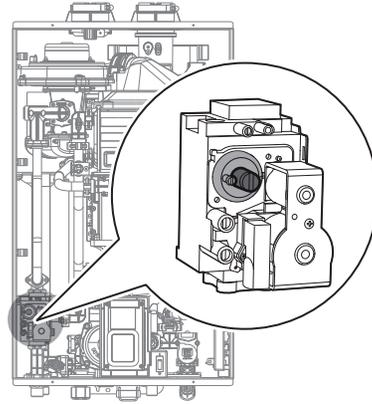

Figure 8. Set Screw Location
- c. Fully open several hot water fixtures and set the water heater to operate at 1-stage MIN mode (refer to page 43). Measure the CO₂ value at low fire. If the CO₂ value is not within 0.5% of the value listed in Table 2, the gas valve set screw will need to be adjusted. If adjustment is necessary, locate the set screw as shown in Figure 8. Using a 5/32" or 4mm Allen wrench, turn the set screw no more than 1/4 turn clockwise to raise or counterclockwise to lower the CO₂ value.